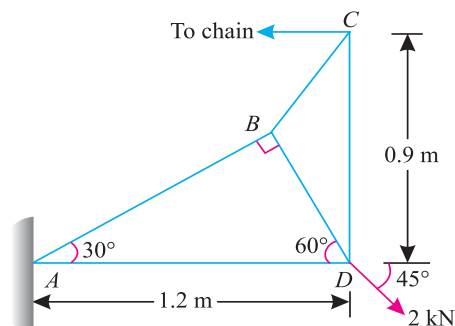

Fig. 13.56.
**Example 13.18.** A pin-jointed frame shown in Fig 13.56 is hinged at A and loaded at D. A horizontal chain is attached to C and pulled so that AD is horizontal.